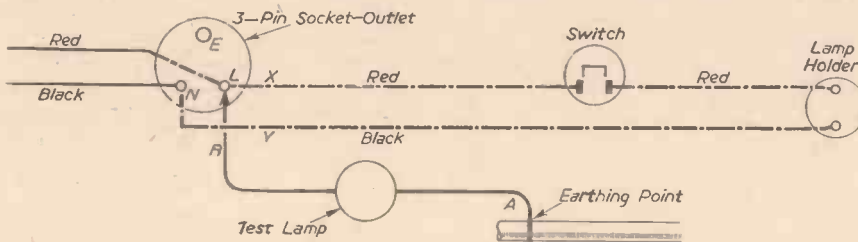

Fig. 1.—Use of test lamp.
The next point to consider is where additional wiring may be connected into an existing circuit. In all cases the feed must be taken from two points on the circuit, one of which must be a "live" pole and the other a neutral pole. Where a small socket-outlet is connected in the circuit the connections are quite suitable as "live" (L) and neutral (N) terminals are available at the socket-outlet. The connections to the socket-outlet should be such that when the earth (E) socket is at the top the L socket should be on the right (when viewed from the front of the socket-outlet), with the N socket on the left, as in Fig. 1. The red cable should be connected to the L terminal and the black cable to the N terminal. It is advisable to check that the connections are correct, however.
In order to do this a lampholder with a mains-voltage lamp may be fitted with flexible leads A and B as in Fig. 1. One lead A should then be connected to a reliable earthing point, such as a main cold water pipe, the other lead B being applied in turn to the two circuit sockets. The lamp should then light when the lead B is applied to the L socket. If the socket-outlet is of the three-pin type and the third socket E is earthed, the lamp should light when connected between L and E. This indicates that the E socket is not connected to earth. If the connections are not as indicated the other socket-outlets should be similarly tested, and the connections of the cables to the L and N terminals changed over if necessary.